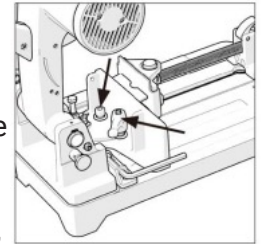

Fig. 8
- Loosen M10 socket head cap screws and lever handle lock screws.(Fig.8)